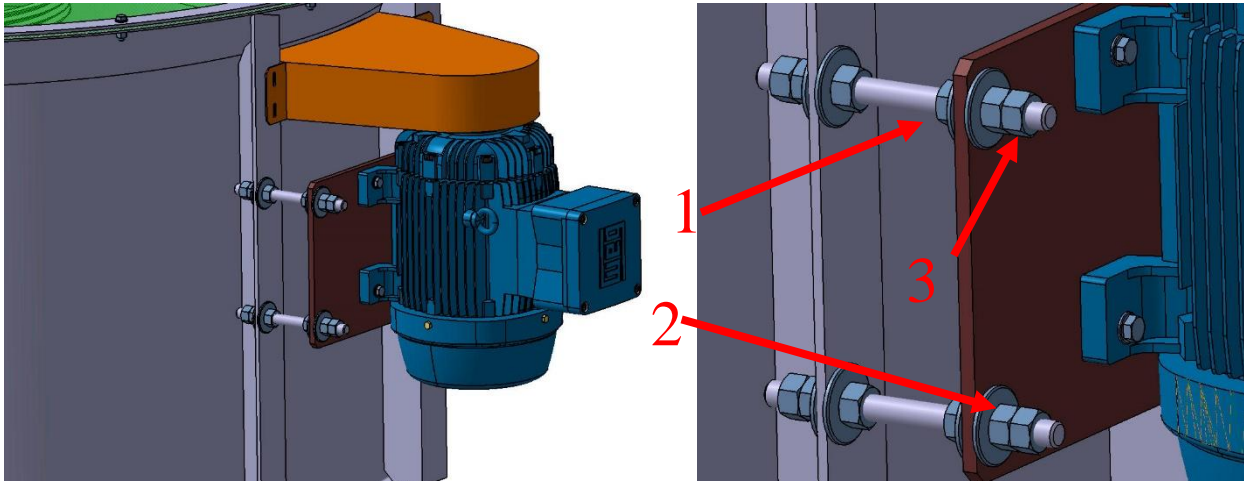

Figure 5-2: Tensioning for fan models “GFF-01”, “GFF-04”, “TFF-09” and “TFF-12”
1. Loosen the locknuts (1 and 3, Figure 5-2) at the four ends of the motor plate.
2. Tighten the nuts (2) to bring closer the two pulley packages or move away, in order to reduce or increase the belt tension.